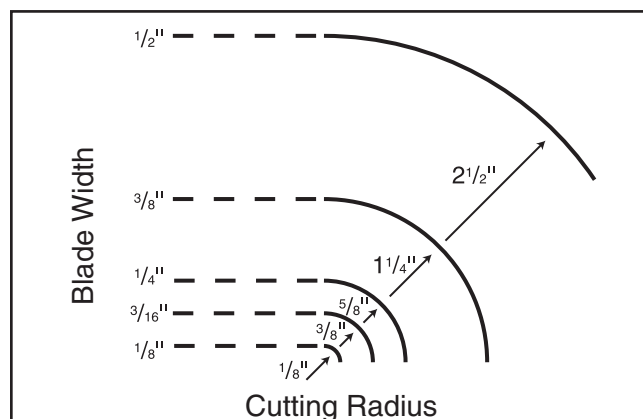

Figure 47. Recommended cutting radius per blade width.
- **Curve Cutting:** Use the chart in **Figure 47** to determine the correct blade for curve cutting. Determine the smallest radius curve that will be cut on your workpiece and use the corresponding blade width.